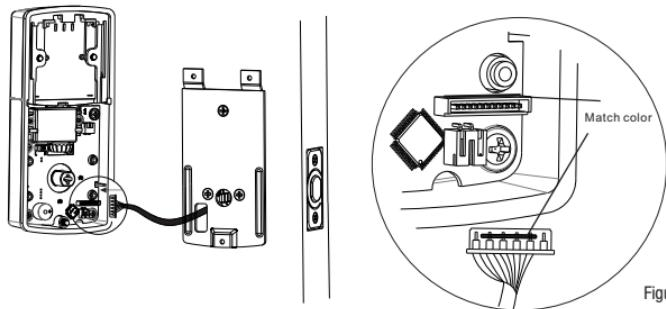

Figure 11a
- Carefully insert the male plug, smooth side up, into the female socket on the interior assembly. **DO NOT FORCE!** (Figure 11a).